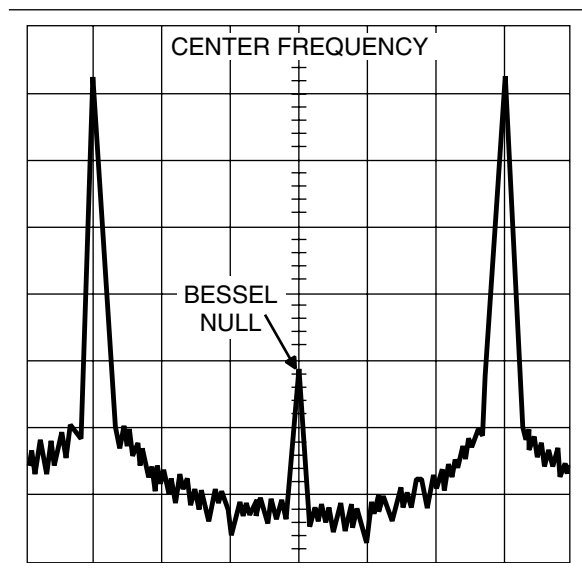

Figure 3-15. Typical Spectrum Analyzer Display of Bessel Null on ΦM Waveform
4. On the 682XXB/683XXB, use the cursor control key to place the cursor under the last 0 in the deviation setting (2.40 rad). While observing the first Bessel null (Figure 3-15), increase/decrease the ΦM deviation with the cursor control key to reduce the carrier as low as possible.
4. On the 682XXB/683XXB, use the cursor control key to place the cursor under the last 0 in the deviation setting (2.40 rad). While observing the first Bessel null (Figure 3-15), increase/decrease the Φ M deviation with the cursor control key to reduce the carrier as low as possible.